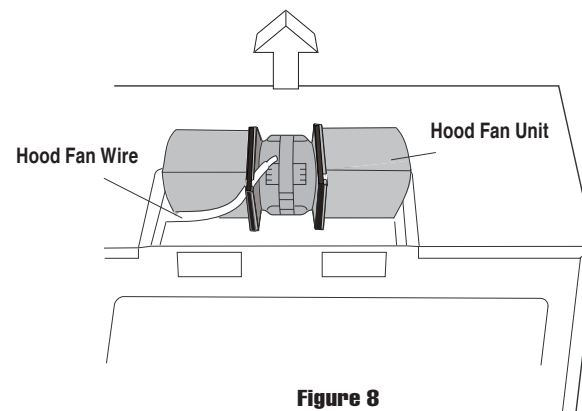

Figure 8
2. Lift Hood Fan Unit carefully and slip wires out of cavity. See Figure 8. **CAUTION: Do not pull or stretch Hood Fan Wire.**